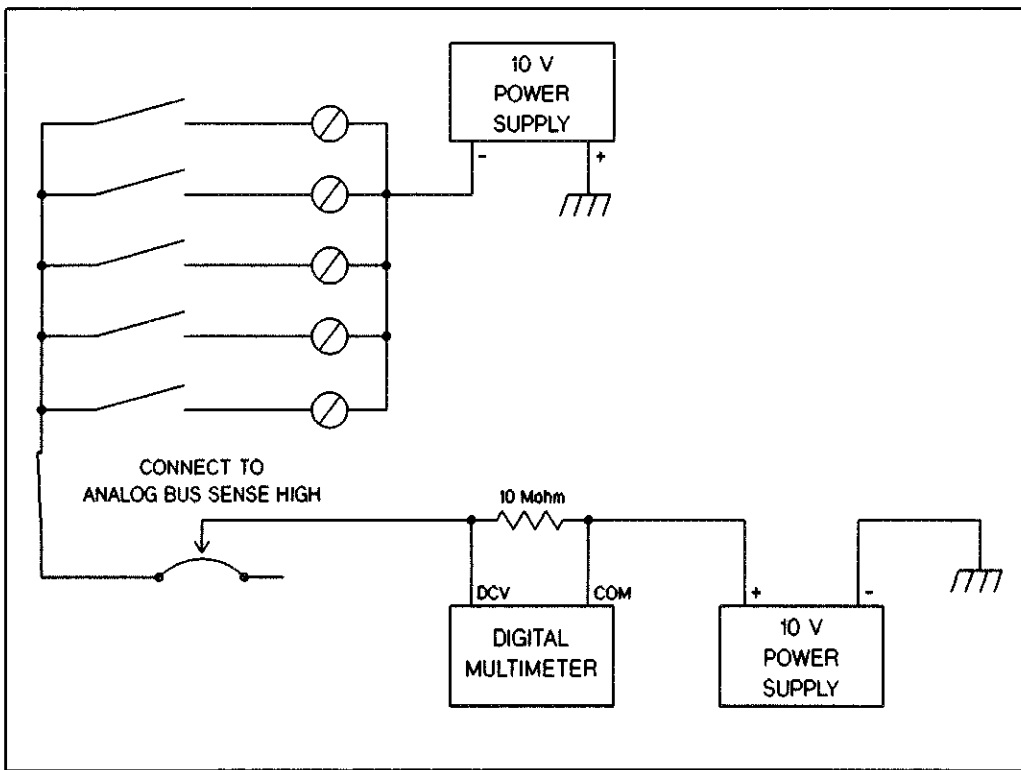
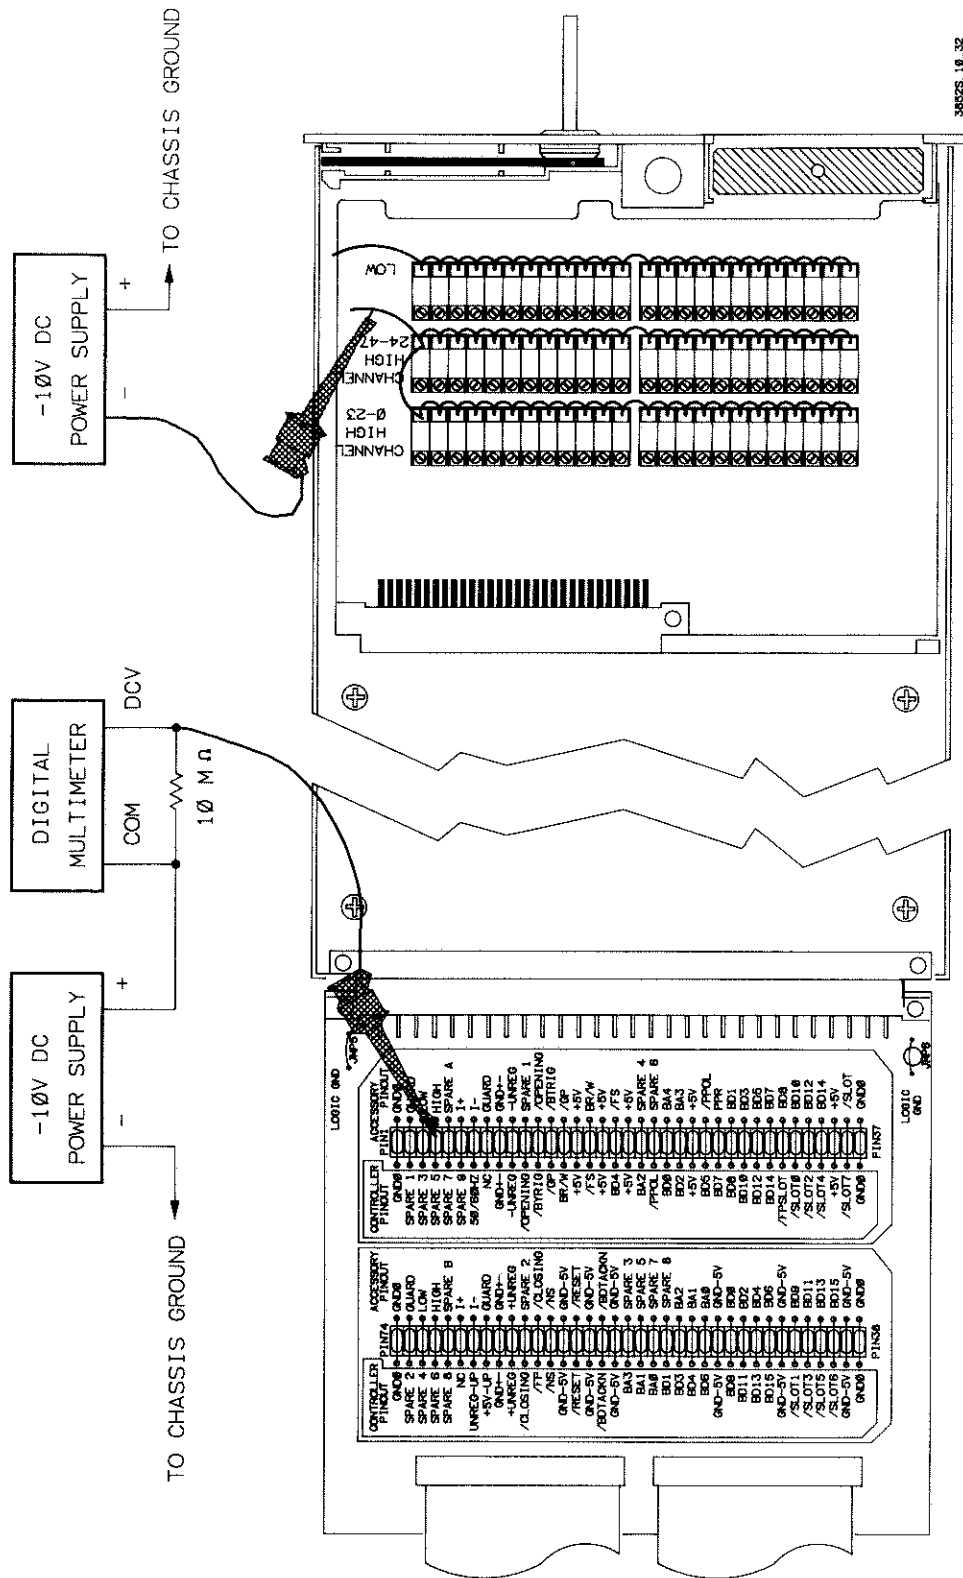

Figure 10-31 Open Channel Leakage Test
Figure 10-32 HP 44712A Open Channel Test Set-Up
1. OPEN CHANNELS LEAKAGE/BIAS CURRENT TEST. This test checks the leakage current with all channels open. A simplified schematic of the setup is shown in Figure 10-31 and the test setup is shown in Figure 10-32.
10. **CLOSED CHANNEL LEAKAGE/BIAS CURRENT TEST.** This test checks each channel HIGH lines for leakage current when a channel is closed. A simplified schematic of the setup is shown in Figure 10-31 and the test setup is shown in Figure 10-32.